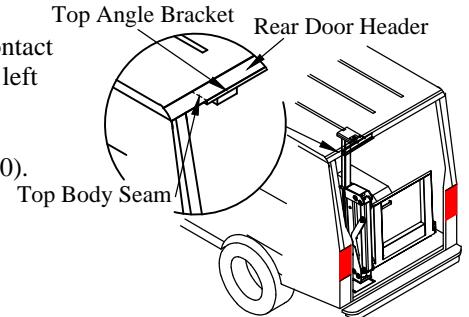

Figure 9: Liftgate in rear opening.
- 3. Position** the liftgate in the rear opening such that the top angle bracket comes in contact with the rear door header (Figure 9). The angle bracket butts up against the top left body seam on the rear door header.